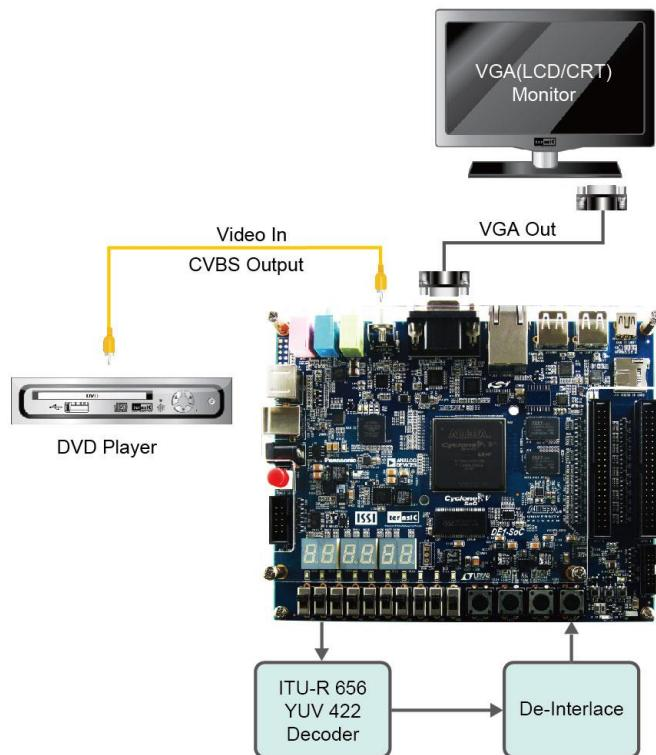

Figure 5-10 Setup for the TV box demonstration
- Connect a DVD player's composite video output (yellow plug) to the Video-in RCA jack (J6) on the DE1-SoC board, as shown in Figure 5-10. The DVD player has to be configured to provide: